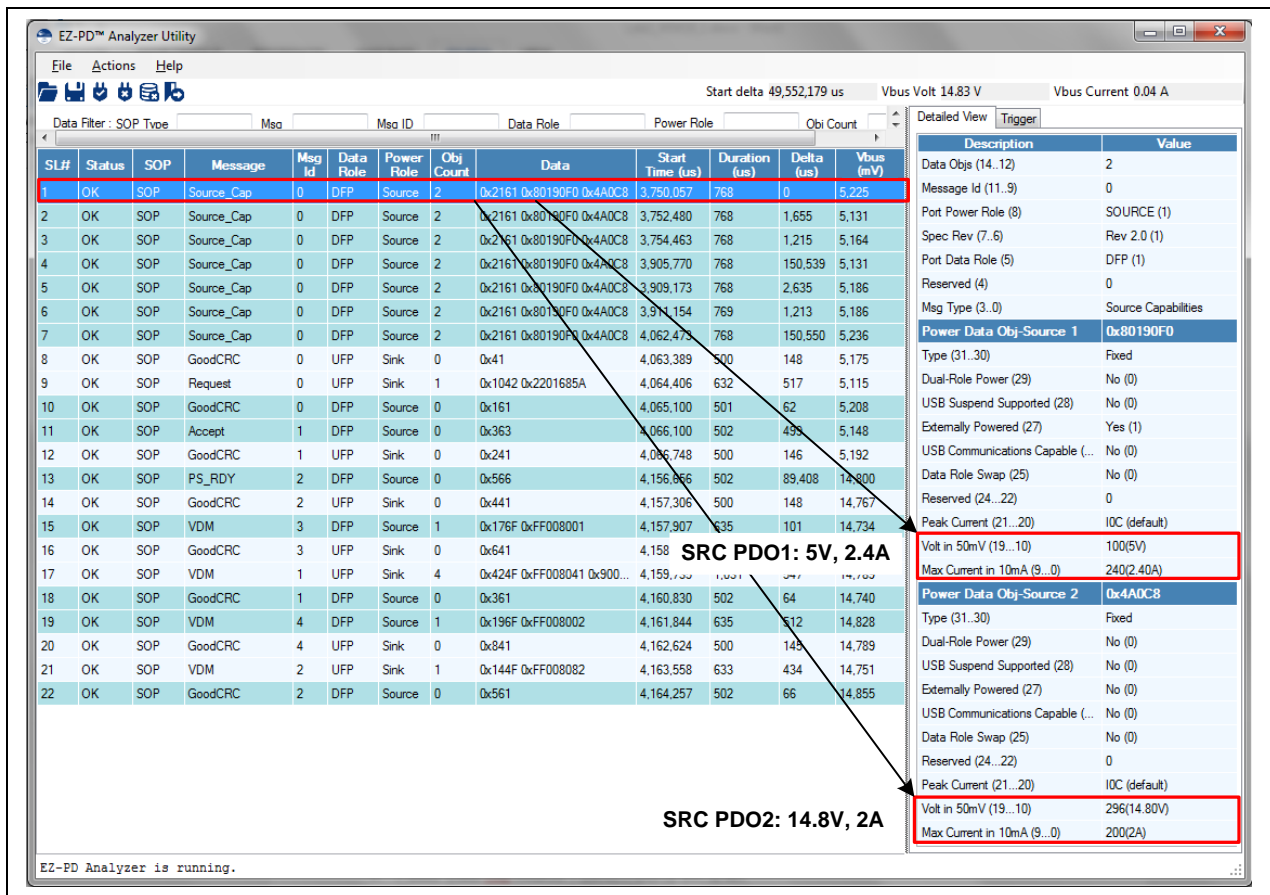
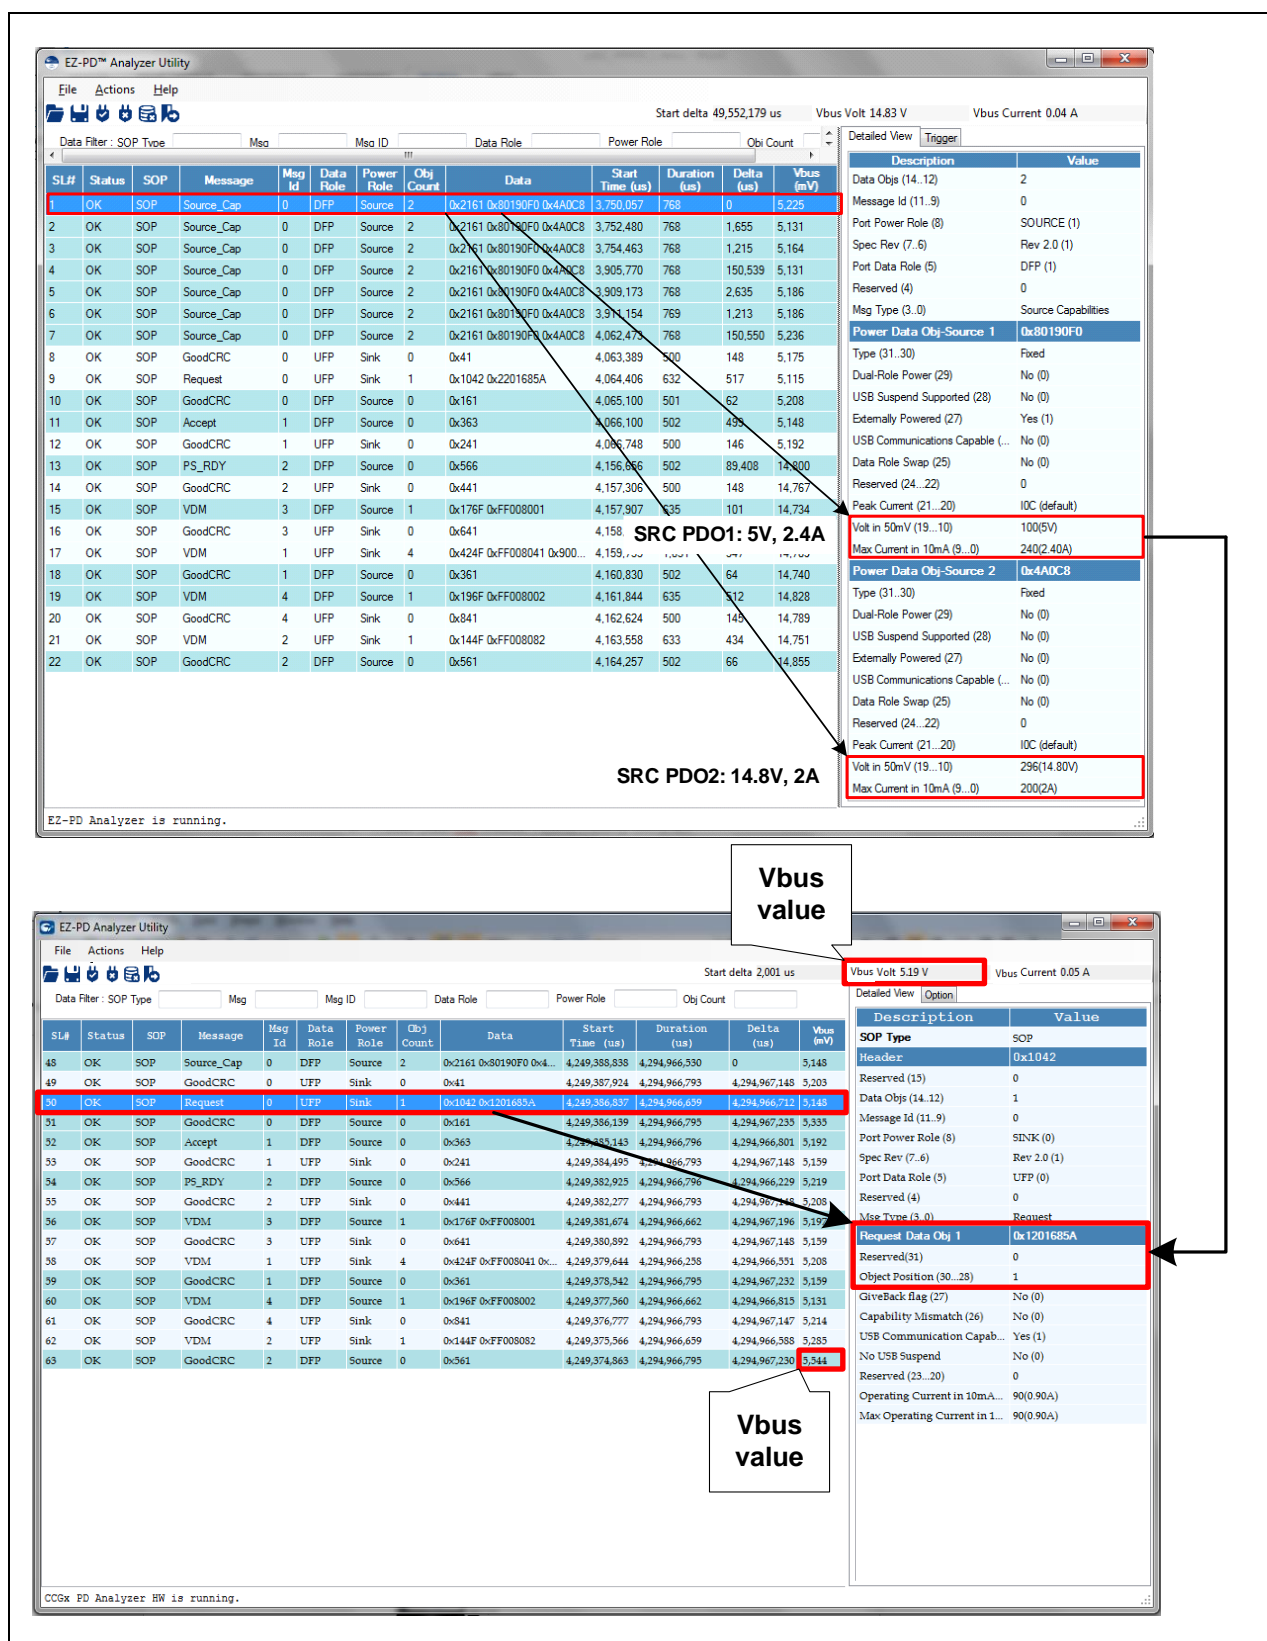

Figure 23 Sink PDOs of Type-C Power Adapter
Figure 24 Debugging Using EZ-PD Analyzer Utility
- The CC trace in Figure 23 shows the PDOs supported by the Type-C power adapter (see boxed area). Based on this trace, you can identify the PDOs supported by the Type-C power adapter. This PDO can be added to the CCG4 device's application firmware to establish a power contract between the CCG4 and the Type-C power adapter. The CC trace in Figure 24 shows that a power contract for 14.8 V is not established and the Type-C power adapter is providing 5 V to the device. During the power negotiation phase, power provider device (here, Type-C power adapter) sends the "Source Capability" message to the attached power consumer device (here, CCG4). The Source Capabilities message in Figure 24 shows the custom PDOs (Power Data Obj Source 1 and Power Data Obj Source 2) supported by the Type-C power adapter. The "Request" message after the "Source Capabilities" message is always sent by a power consumer device to request the power. Since the CCG4 device is not able to establish a power contract for 14.8 V, it requests for Power Data Object position 1 (boxed area), which corresponds to the 5 V PDO. Refer to the USB Power Delivery \(PD\) Specification Revision 2.0, Version 1.1 for more details on PD messages.